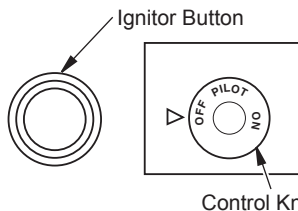

Figure 55 - Control Knob and Ignitor Button Location
5. Wait five (5) minutes to clear out any gas. Then smell for gas, including near the floor. If you smell gas, STOP! Follow "B" in the safety information, column 1. If you don't smell gas, go to the next step.
6. Press in and turn control knob counter-clockwise  to the PILOT position. Press in control knob for five (5) seconds (see Figure 55).